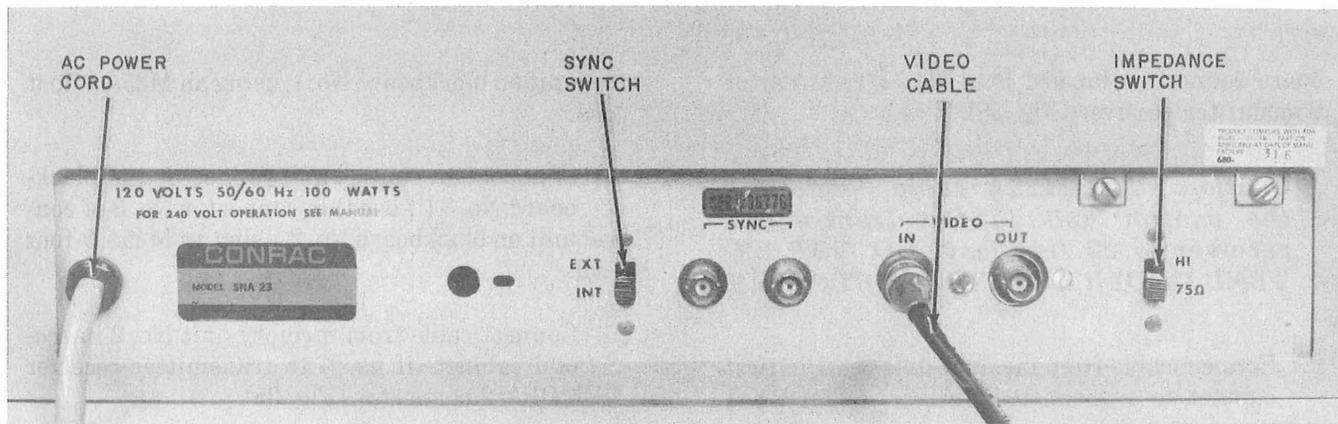

Fig. 43—Typical Video Monitor Controls—Rear
(7) Connect video cable supplied with memory unit from video output jack on memory unit (Fig. 4 and 6) and route through right access hole of middle shelf. Connect to VIDEO IN jack on rear of video monitor (Fig. 43).
(8) Connect video cable from memory unit No. 2 in cabinet No. 2 (if used) and route through right access hole of middle shelf. Connect to VIDEO IN jack on rear of video monitor No. 2.
(9) Connect video cable from memory unit No. 3 in cabinet No. 3 (if used) to VIDEO IN jack on rear of video monitor No. 3.
6.08 Verify that monitor controls are set as follows (Fig. 43):